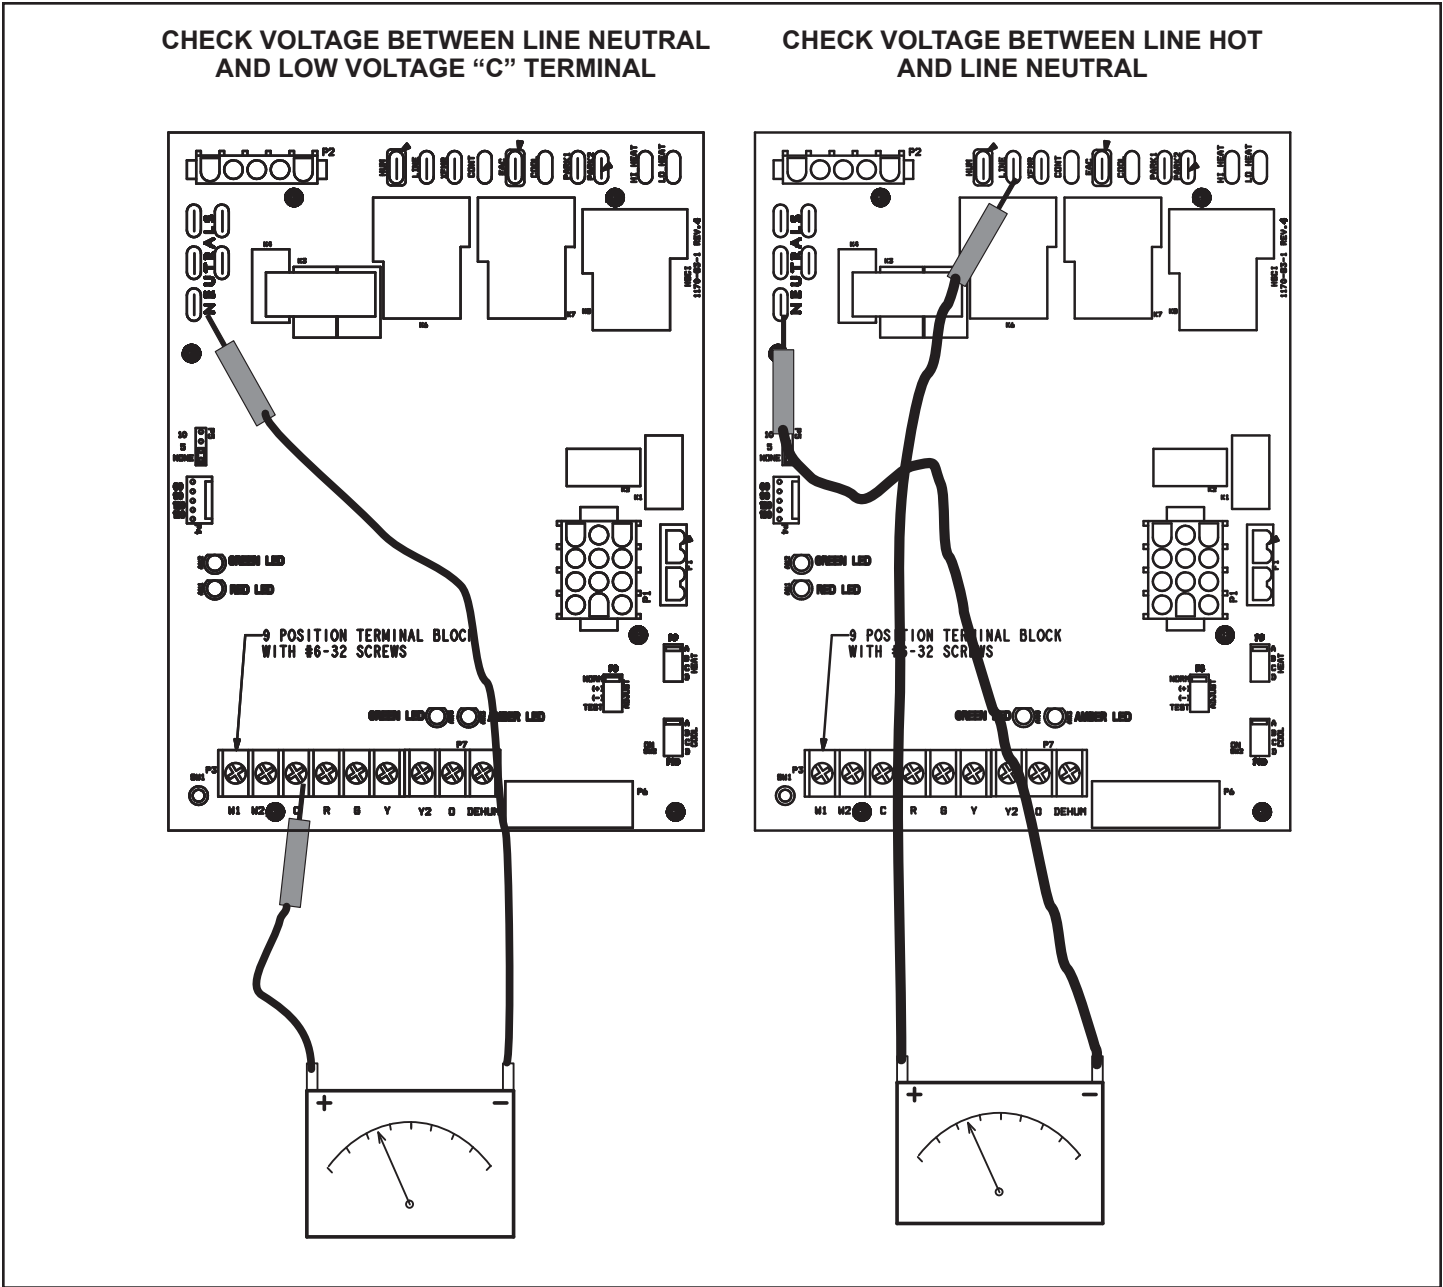

Figure 45.
- 1. Measure the AC voltage between Line Neutral (spade terminals) and “C” terminal (low voltage terminal block) on the integrated control. See Figure 45. A wide variation in the voltage between Line Neutral and “C” as a function of load indicates a poor or partial ground. Compare the readings to Table 17. If the readings exceed the maximum shown in Table 17, make repairs before operating the furnace.
- 1. In addition, measure the AC voltage from Line Hot to Line Neutral (spade terminals) on the integrated control. See Figure 45. This voltage should be in the range of 97 to 132 VAC